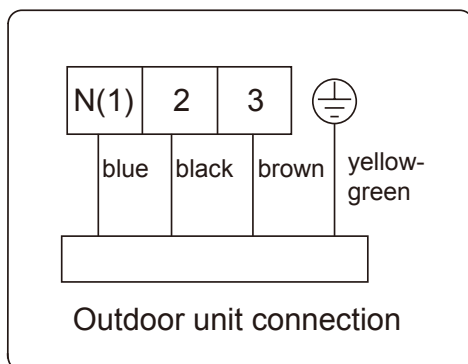

Fig. 29
| ③ . | Connect the indoor unit connection cord properly based on the corresponding marks as shown in Fig. 29. |